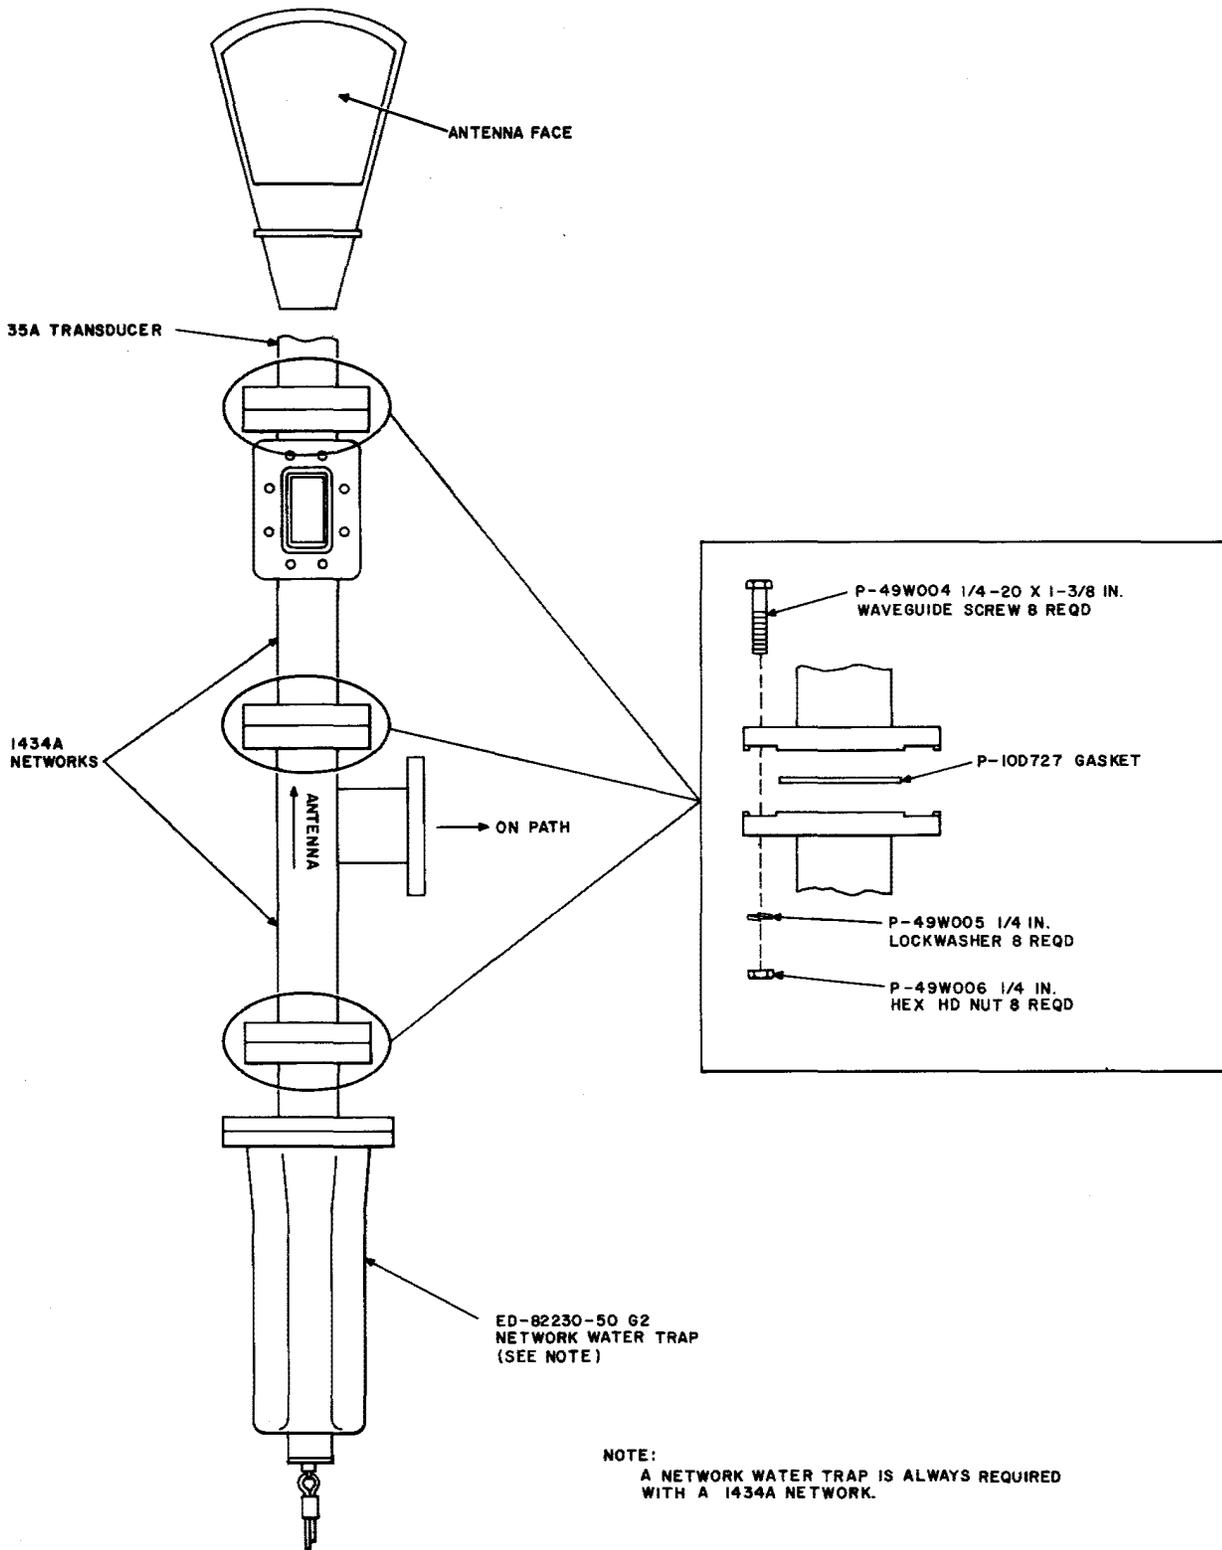

Fig. 16—Installation of 1434A Network
**2.38** When there is no requirement for an 11-GHz radio system, the 1434A network may be used in place of the 1406A or 1428A networks. An ED-82230-50G2 water trap must be used with the 1434A network. The 1434A network is installed as shown in Fig. 16, using the bolts, gaskets, and lockwashers provided with the network, transducer, and water trap. The upper 1434A network is positioned so that the side tap is perpendicular to the antenna face. This will result in horizontal polarization for the upper network. The lower 1434A network is positioned so that the side tap is rotated 90 degrees from the side tap of the upper 1434A network.